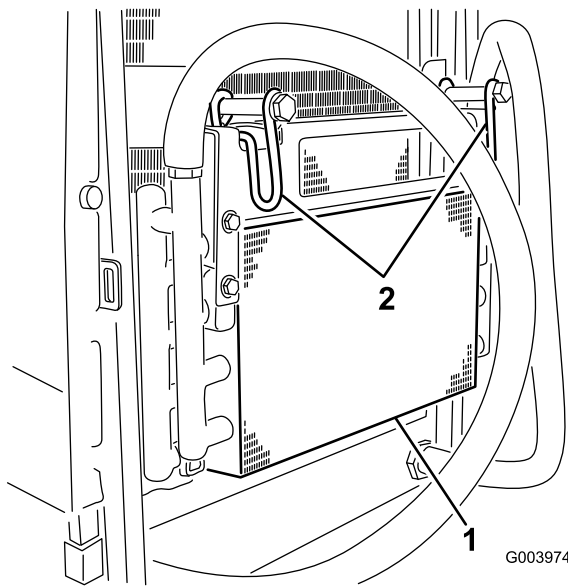

Figure 94
7. Rotate the 2 oil-cooler latches inward, and tilt oil cooler (Figure 94).